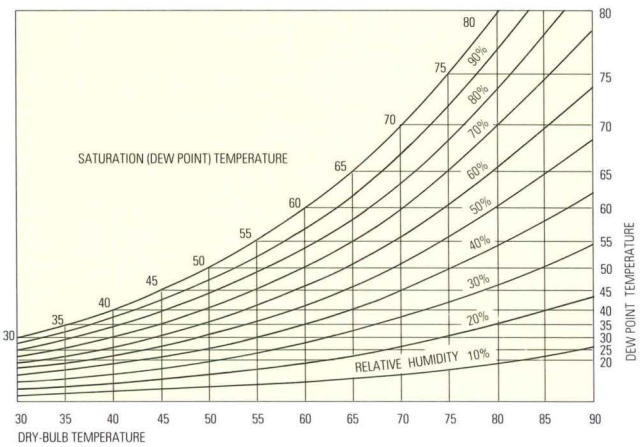

Figure 1. Psychrometric Chart.
*Example 1.* What U-value is necessary to avoid condensation over the COG area when the outdoor temperature is 10 F, indoor temperature is 72 F, and RH is 50 percent? Figure 1 shows that  $T_{dew}$  is about 52.5 F, so  $U = 1.47(72 - 52.5)/(72 - 10) = 0.46$ ; an air-filled low-e glass is adequate.